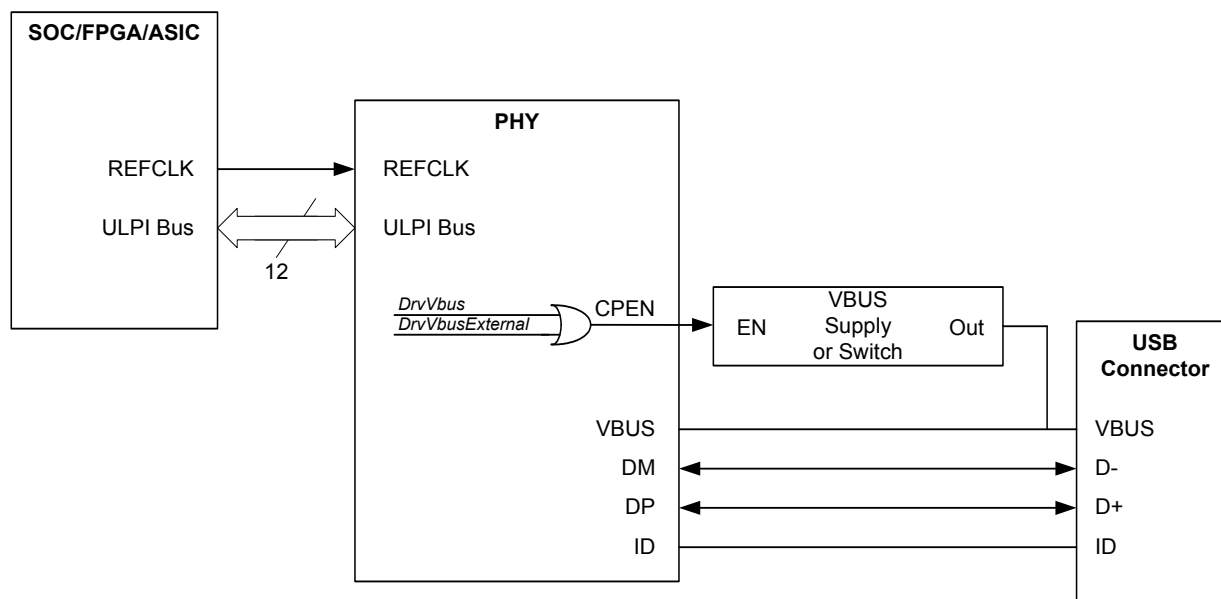

Figure 5.9 USB3318 Drives External Vbus Supply or Switch
**CPEN** is asserted by setting the *DrvVbus* or *DrvVbusExternal* bit of the **OTG Control** register. To be compatible with Link designs that support both internal and external Vbus supplies the *DrvVbus* and *DrvVbusExternal* bits in the OTG Control Register are or'd together. This enables the Link to set either bit to access the external Vbus enable (**CPEN**.) This logic is shown in Figure 5.9. *DrvVbus* and *DrvVbusExternal* are set to 0 on POR.